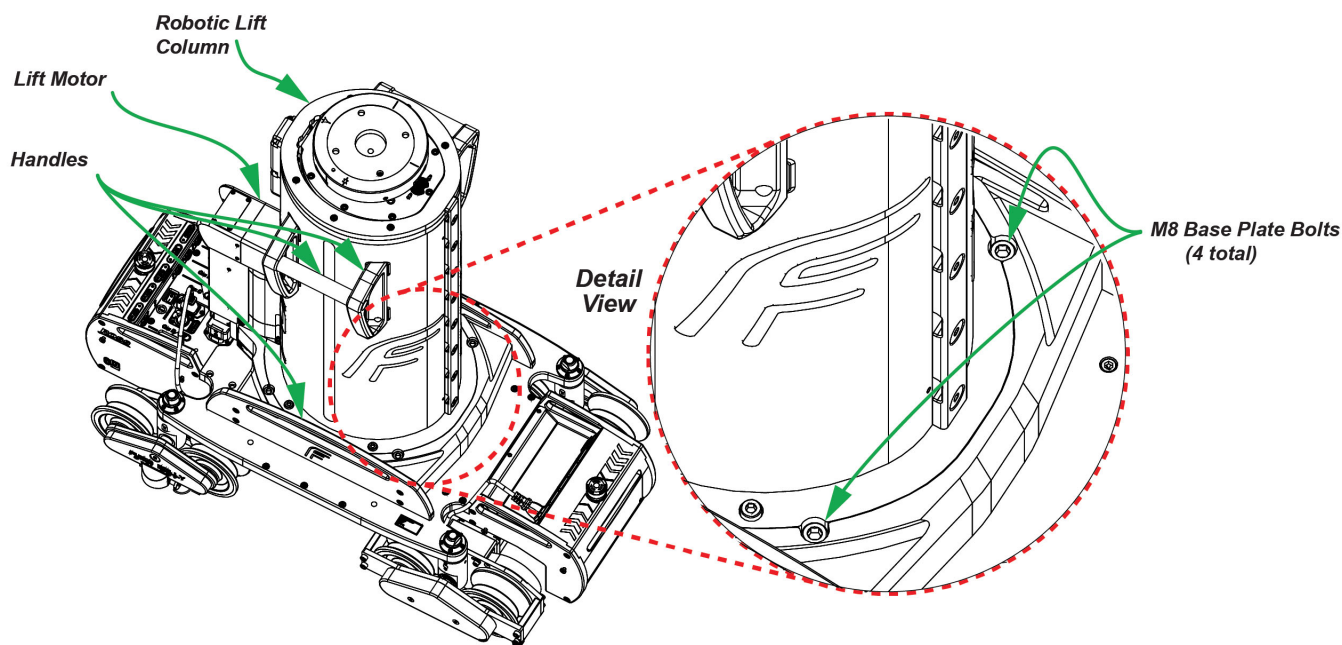

Figure 30 - M8 Base Plate Bolts Connecting the Lift to the Dolly
3. **For a Robotic Lift:** Using the 8 mm hexagonal wrench for the lift, tighten the four M10 base plate bolts (shown in Figure 30).